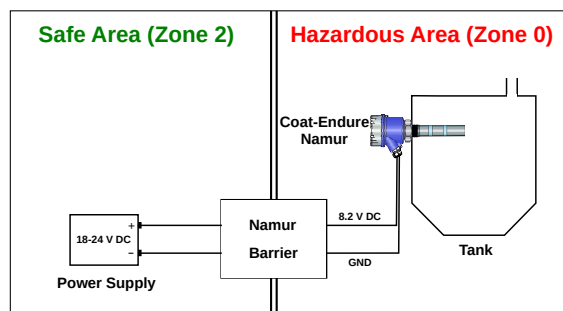

Figure 43: Calibration at safe zone
- Before Installing the device, ensure that the calibration process has been already carried out in safe area (Zone 2) then install the instrument in hazardous area as shown in Figure 43.